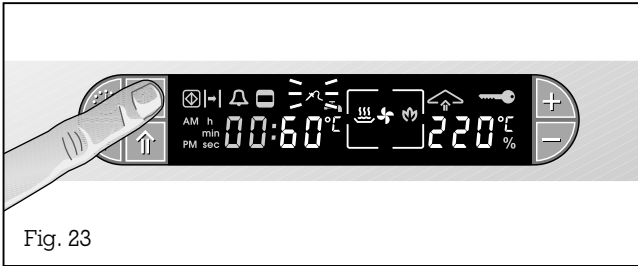

Fig. 23
- Press the ^ (Core temperature sensor) key twice. On the display, the ^ (Core temperature sensor) symbol flashes and the suggested value 60°C / 140°F can be seen on the display (Fig. 23).